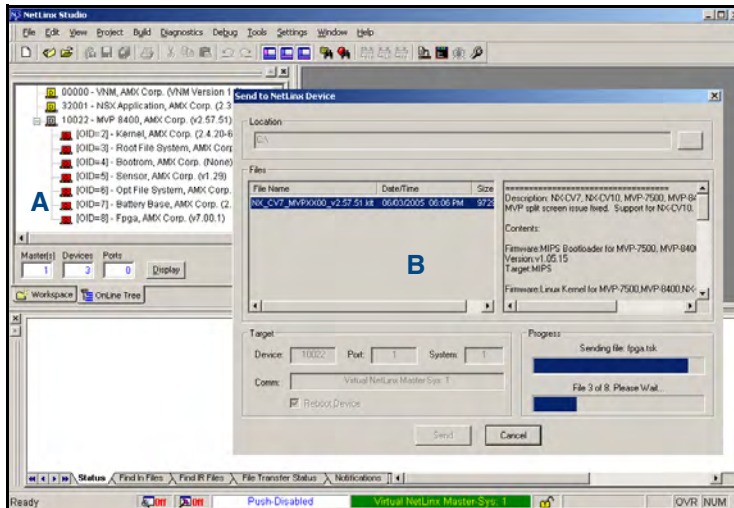

FIG. 38 Using USB for a Virtual Master transfer
- Select **Tools > Firmware Transfers > Send to NetLinx Device** from the Main menu to open the Send to NetLinx Device dialog (B in FIG. 38). Verify the panel's System and Device number values match those values listed within the System folder in the **OnLine Tree** tab of the Workspace window (A in FIG. 38).
11. Click **Send** to begin the transfer. The file transfer progress is indicated on the bottom-right of the dialog (B in FIG. 38).